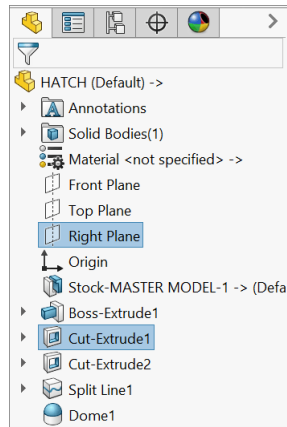

Fig. 27
Step 1. Ctrl click **Right Plane**  and **Cut-Extrude1**  feature to select plane and feature, **Fig. 27**.